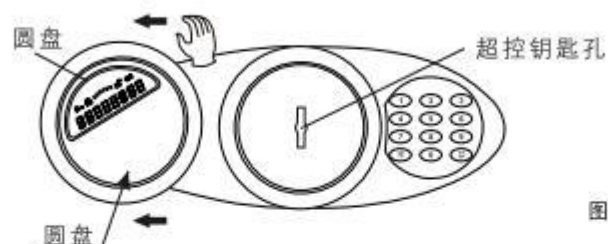

图6
- ☐ 按照第7页图6所示，逆时针  旋转面板上的圆盘并取下，可看见后面的超控钥匙孔，再按照第4页图3所示，先将超控钥匙插入超控钥匙孔并顺时针  转动到位，然后将主钥匙插入第4页图4所示的开启钥匙孔，顺时针  转动到位，再顺时针  转动执手（或圆形执手）开启保险柜门。
- ☐ Turn the LCD mounting disc counterclockwise and remove it from the panel (Figure 6, P.7 in User's Manual). Locate the override keyhole behind the disc. Insert the override key (Figure 3, P.4 in User's Manual) into its keyhole and turn it clockwise to the end, then insert the lock key into the door-opening keyhole (Figure 4, P.4 in User's Manual) and turn it clockwise to the end, turn the handle (or knob) clockwise to open the door.